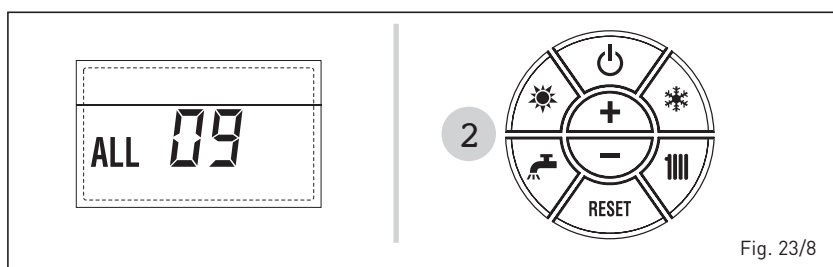

Fig. 23/8
– **ANOMALIA SONDA ANTIGELO SIFONE “ALL 10” (fig. 23/9)**